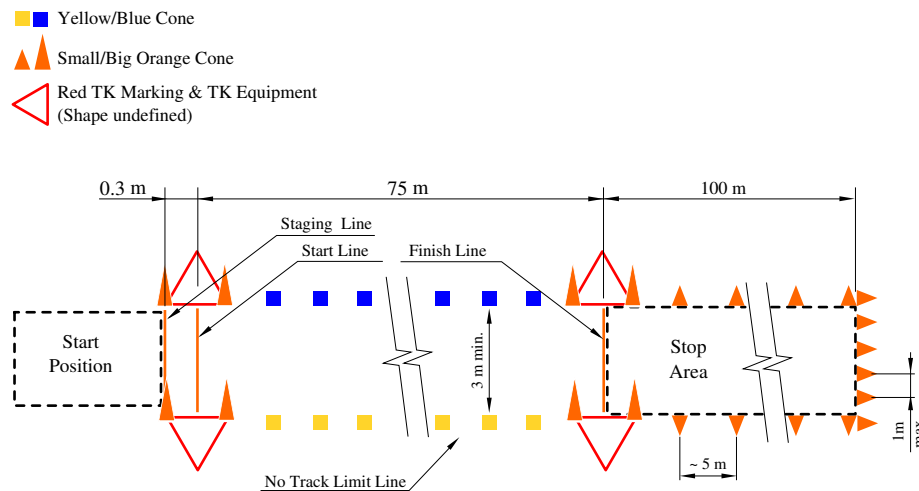

Figure 1: Acceleration
- DE6.3.6 Figures 1, 2 and 3 visualize the track layout descriptions given in D4.3, D5.1, and D8.1.